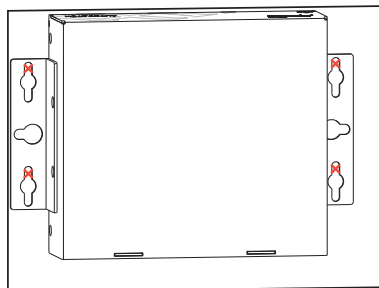

FIG. 31 Mark screw positions
1. Place the switcher in the desired final position on the mounting surface and mark the screw position as indicated in FIG. 31.